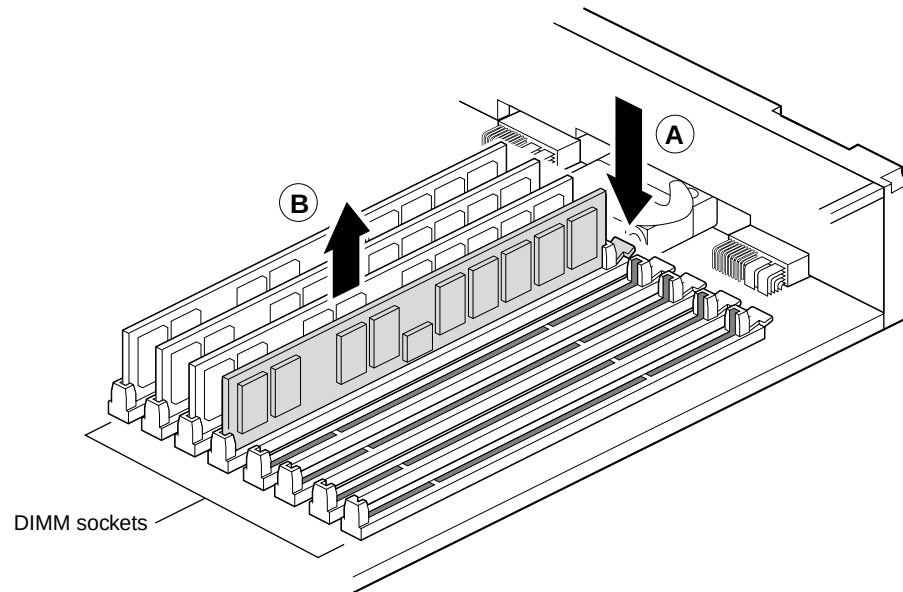

Figure 2-3 Host (Octane) DIMM Removal
- 10.) As shown in Figure 2-3, press down on the latch at (A), near the end of the DIMM socket. The DIMM partially ejects from the socket. It can then be removed as shown in (B).